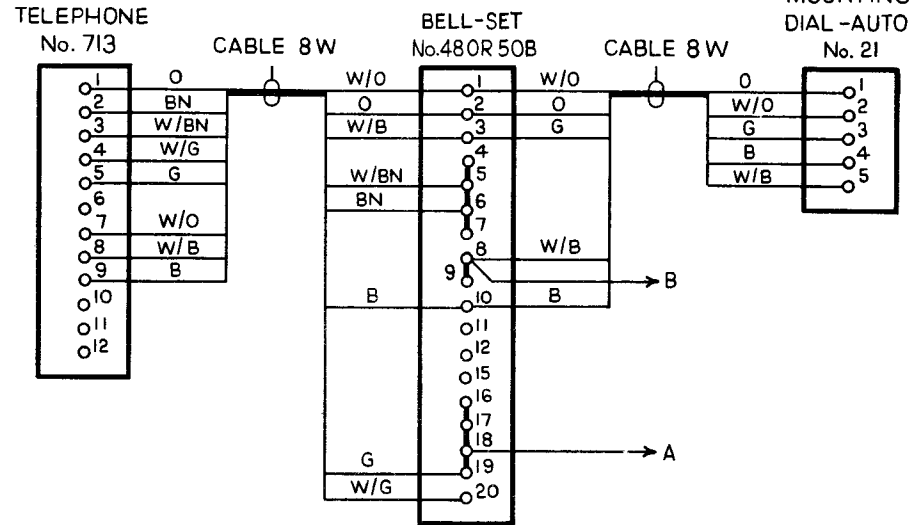

FIG. 3 SHARED SERVICE LINES
- WHEN AN EXTENSION BELL IS REQUIRED, CONNECT IN PLACE OF STRAP BETWEEN TERMINALS 17 & 18 IN BELL-SET (14 - 15 IN FIG 3)